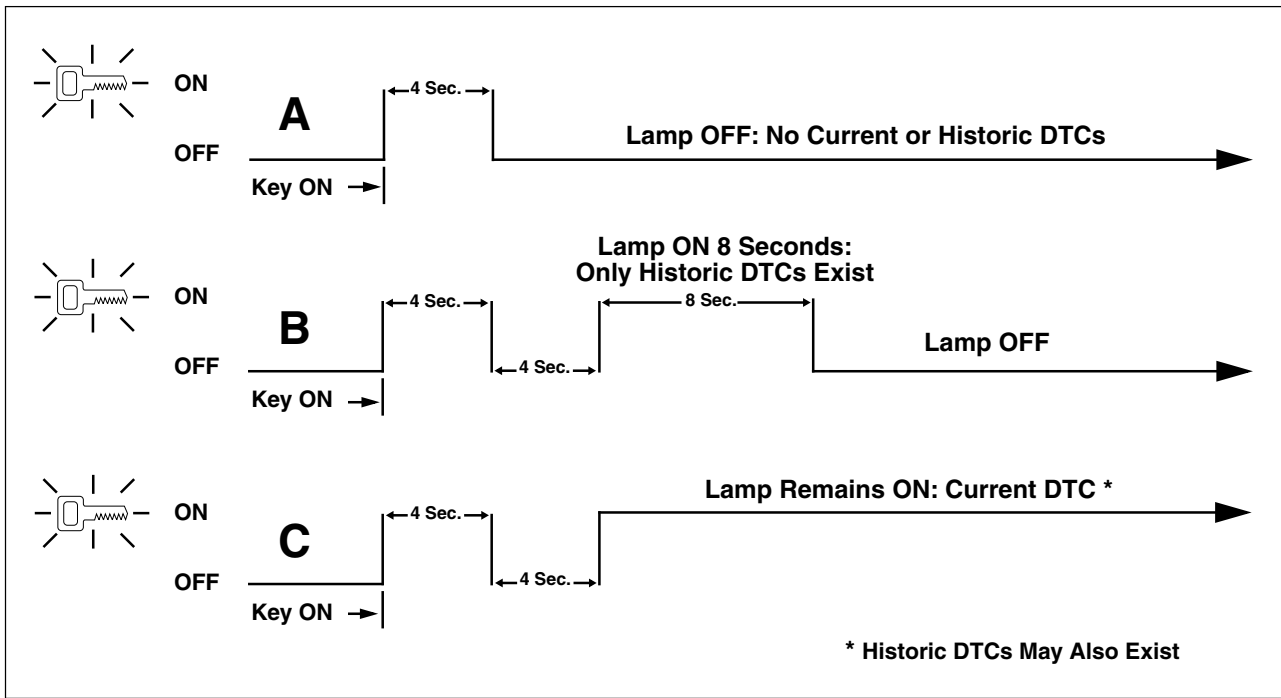

Figure 3-9. Security Lamp Operation
2. See Figure 3-9. After the lamp turns off after being illuminated for the first four second period, one of three events may occur: